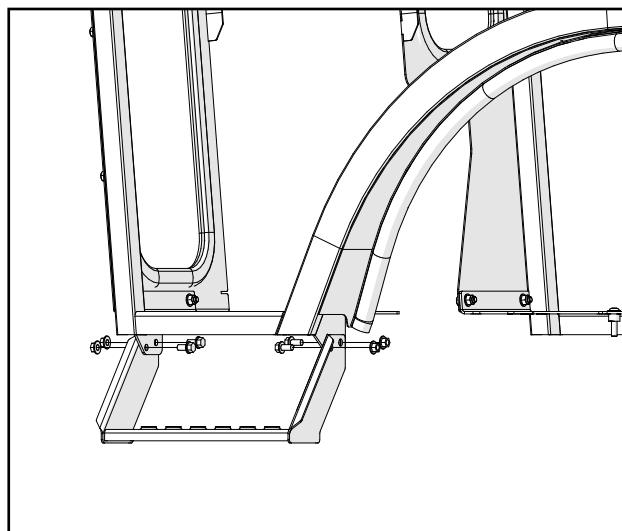

Fig. 13.1 (Install Left Step)
- 13.1 If equipped, re-install the left step to the new relocation tabs on the side frame using the hardware saved earlier. See Figure 13.1